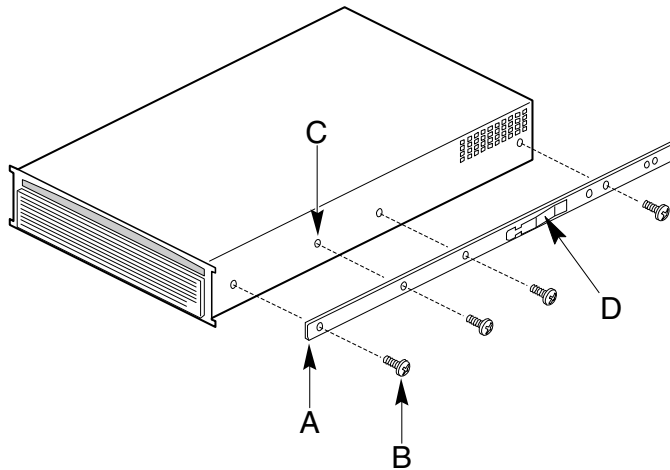

Figure: Step 3
- 3** Align each inside rail (A in Figure Step 3) to a side of the chassis. Be sure that the flat end of the inside rail is toward the front of the chassis and that the brass colored finger tab (D in Figure Step 3) is facing outward. With the holes in the chassis (C in Figure Step 3) aligned with the holes in the rail, fasten the rail using the largest screws (B in Figure Step 3) supplied with the rail kit.